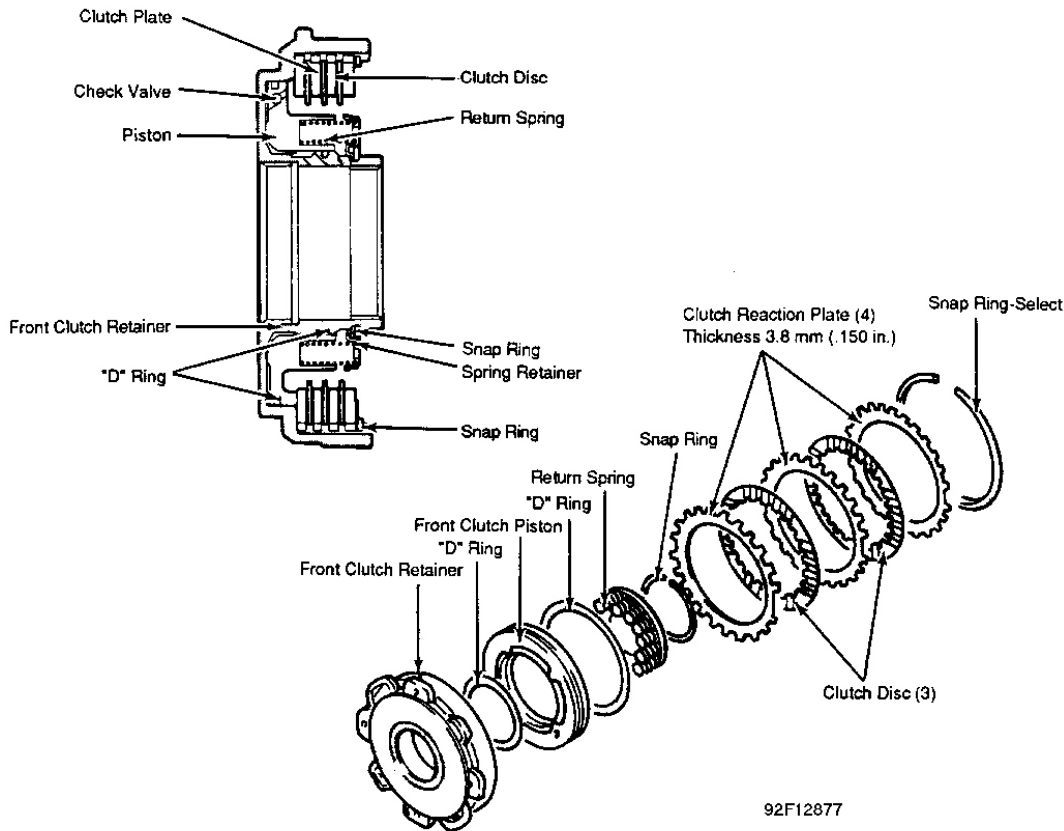

Fig. 12: Exploded View of Front Clutch Assembly
2. Install return spring and spring retainer. See **Fig. 12** . Compress return spring and install snap ring.
3. Apply ATF and install clutch reaction plates and clutch discs. See **Fig. 12** . After installing snap ring check clearance between snap ring and clutch reaction plate. Clearance should be .016-.024" (.40-.60 mm). Selective snap rings are available to adjust clearance.